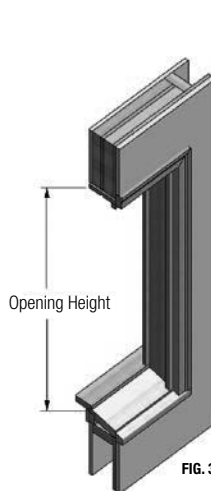

FIG. 3
- B) Measure the opening height of the existing frame at the left, right and center of the frame. (Fig. 3 & 4) Verify the replacement window frame height is approximately 3/8" smaller than the existing frame height. **Note: Measure from inside of head jamb to top of sill. (Fig. 3 & 4)**